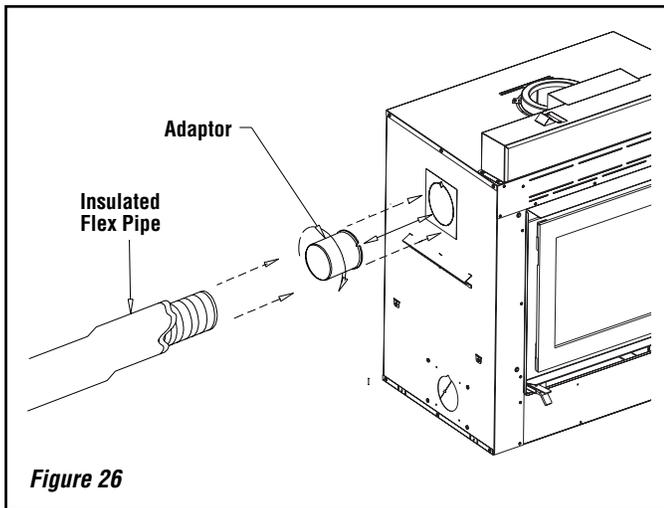

Figure 26
- Remove knock-out plate and cut insulation the adaptor at the back and/or the side of the fireplace. Fix the adaptor by twist-locking it to the fireplace. You can use more than one outlet on the fireplace (see **Figure 26**).